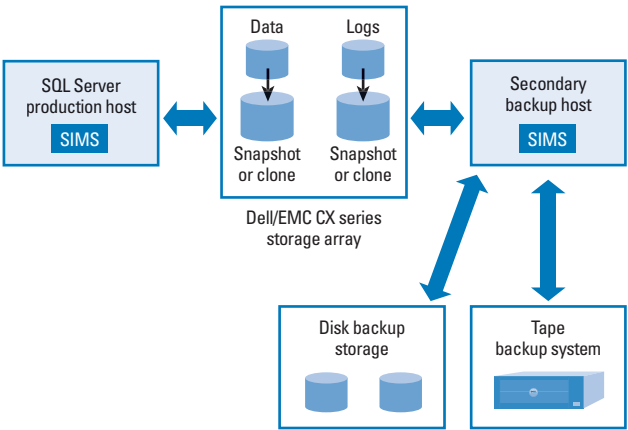

Figure 2. SIMS-based backup
- **Snapshot volume job type:** For the snapshot volume (SV) job type, SIMS creates SnapView snapshots for the backup process. SIMS creates and activates snapshots of the SQL Server database source logical storage units (LUNs) mounted on the production host. It provides options for backing up the snapshots to disk or to a third-party tape backup solution using a secondary backup host (see Figure 2). This job type uses minimal disk space because it backs up only the minimal changes to the data that occurred after the initial creation of the point-in-time copy. During backup, SIMS checks SQL Server, starts the VDI process, and flushes the production host file system. The VDI process freezes the database for writes and creates metadata for the backup. SIMS then completes the snapshot process on the storage array and exits the VDI process. The snapshots that contain the stable image of the database data are accessed by the secondary backup host and can be backed up to disk or passed to a third-party tape backup solution.